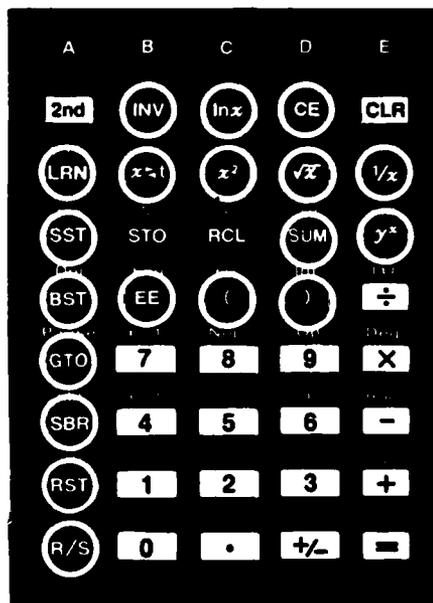

Figure 4. TI-59 keyboard preparation.
a. Equipment Malfunction. Table 5-1, TM 9-1220-242-126P addresses some of the common equipment malfunctions and should be consulted when equipment problems are suspected. In some cases, the TM's corrective actions require keyboard operation using the manufacturer's (TI) designated key symbols. Some of the key symbols may be covered with tape. If the required key is covered, refer to figure 4, page 12-A to determine which key to press. The manufacturer's designed key functions are always present. The gunnery programs temporarily redefines the key's function for accomplishment of the gunnery related calculations.